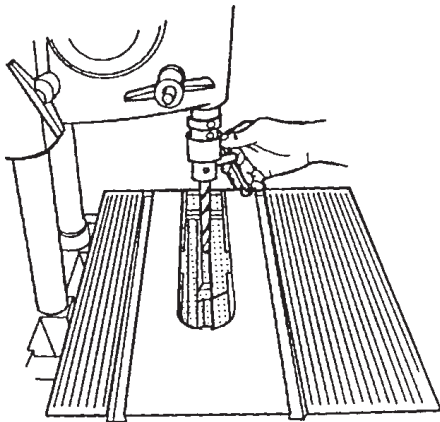

Figure C-16
9. Install a 3/8" to 1/2" straight drill bit in the drill chuck and use the chuck key to lock it place. See Figure C-16.